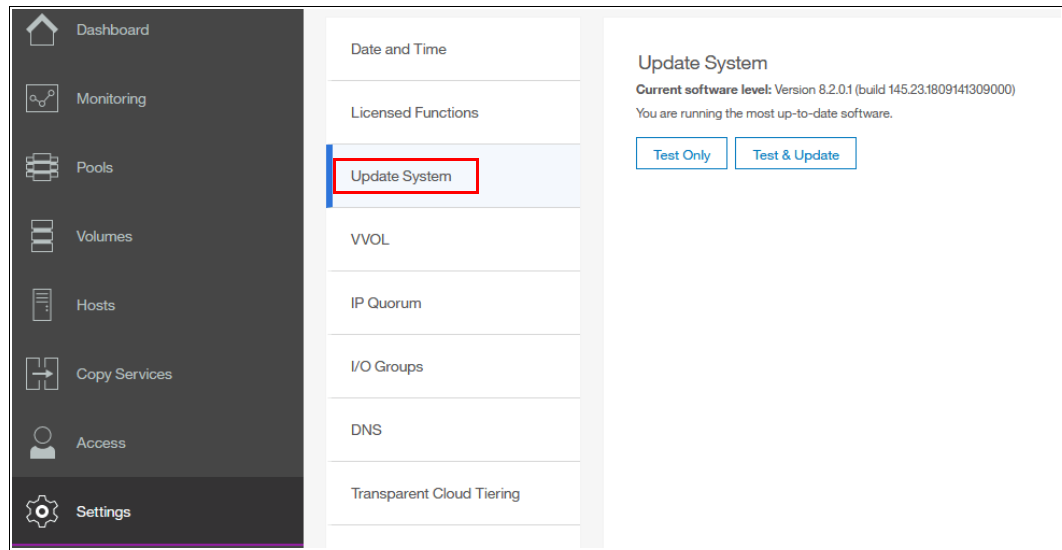

Figure 7-48 Update System window
3. In the **System** menu, click **Update System**. The Update System window opens (Figure 7-48).